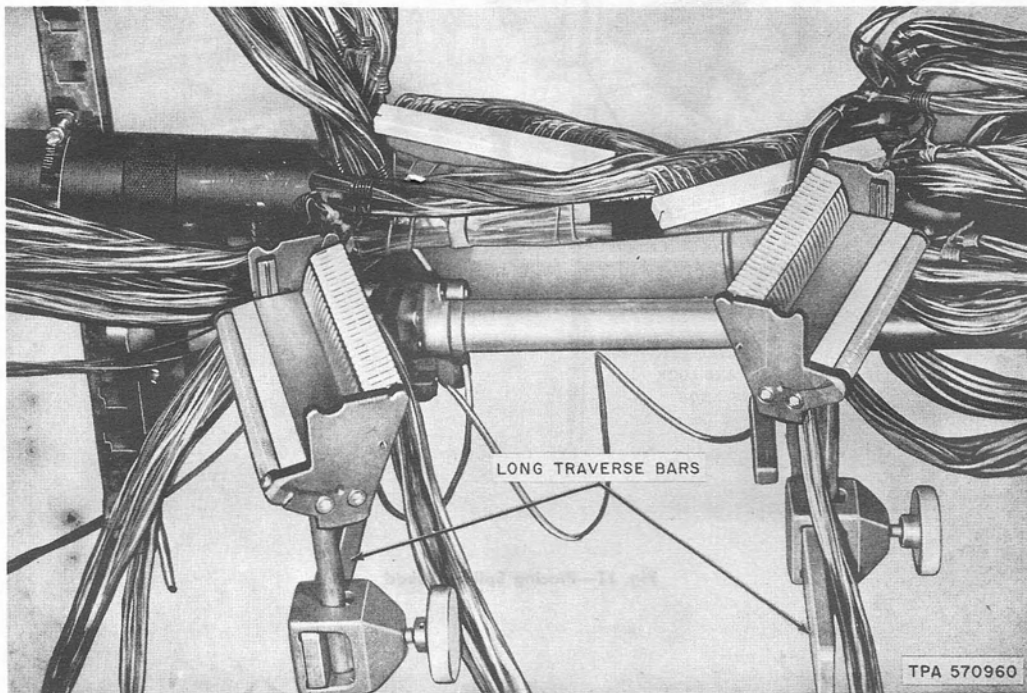

Fig. 12—Set-up for Two-man Splicing
4.05 For two-man splicing operations two No. 4040 Splicing Head Assemblies are mounted on the support tube (Fig. 12).